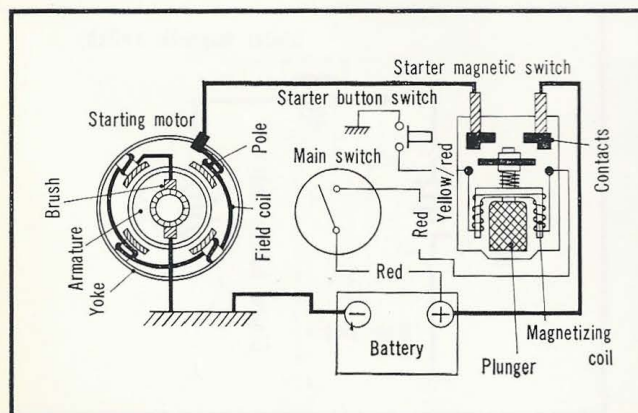

Figure 5-5. Starter wiring
- (1) The plunger coil is defective due to a broken wire, therefore, replace the coil. However, if an energizing click is heard in the starter relay, the defect is a poor contact in the starter switch button or the contact plate within the magnetic switch, therefore, disassemble the part and clean the contact areas. (Fig. 5-5)